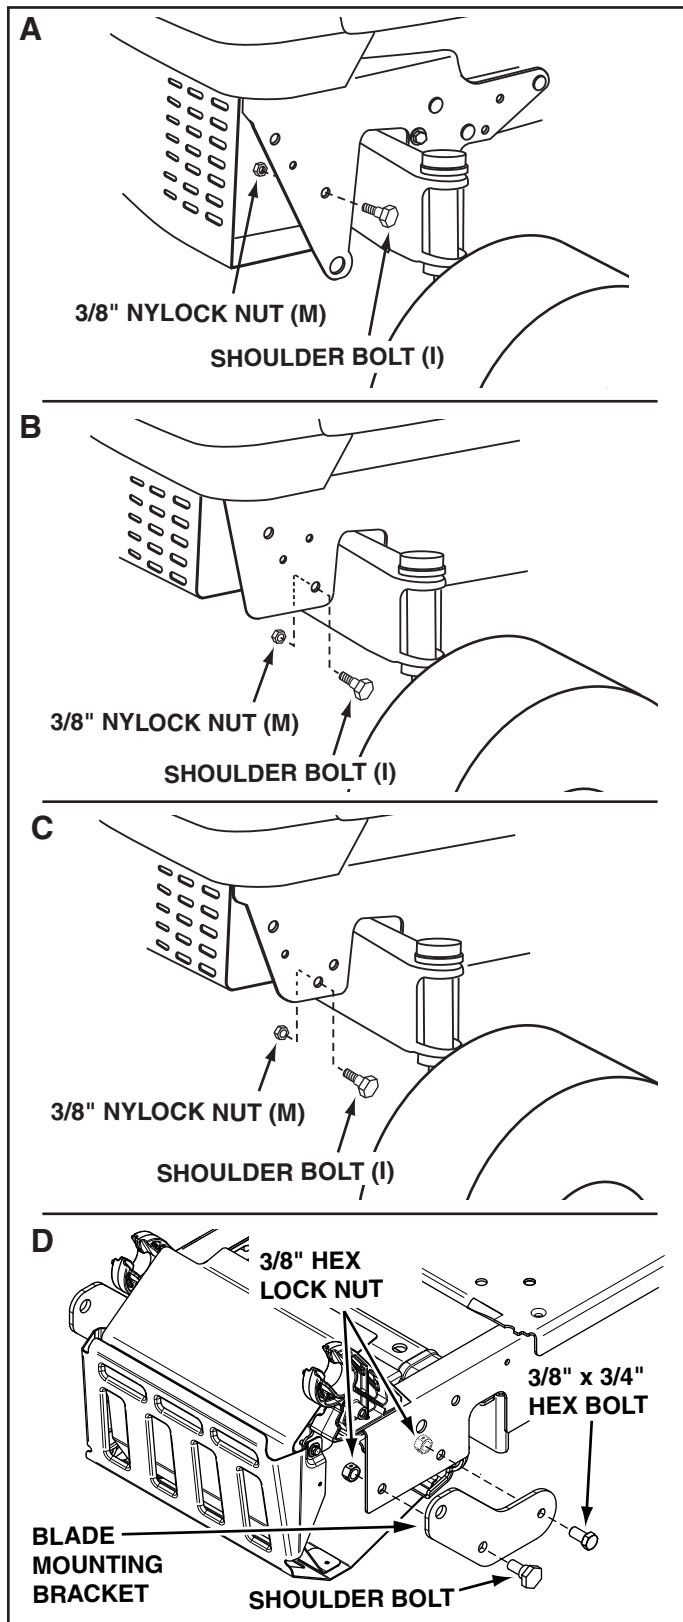

FIGURE 13
STEP 3: (SEE FIGURE 13)
- Assemble a shoulder bolt (I) and a 3/8" nylock nut (M) to the front of the tractor frame on each side, unless a shoulder bolt is already present.